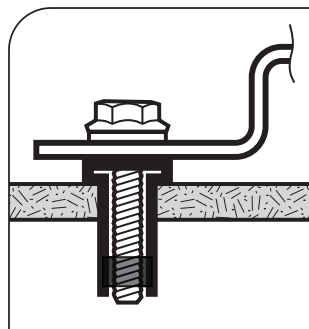

Fig. 3.6. The 5-hole mounting bracket is placed against the flange of the Well-Nut and is secured by the bolt engaging the captive brass nut.
- Fasten the mounting brackets to the roof surface by inserting the ¼ x 1¼" serrated flange bolt into the Well-Nut (Fig. 3.6). Tighten using a 3/8" wrench to a recommended torque of 15 lbs. When the serrated flange bolt is screwed into the Well-Nut, the material surrounding the well nut bulges slightly securing the structure to the RV roof (Fig. 3.7 & 3.8).